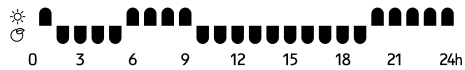

Figure 2
- P2 (Figure 2) is a preset programme Monday-Friday and Saturday - Sunday. See image below for P2 preset programme which shows the unit settings in a 24hr period which will repeat over a 7 day period. (The images (Figure 2 and 3) below are just for illustration purposes only and not shown on the LED display.)